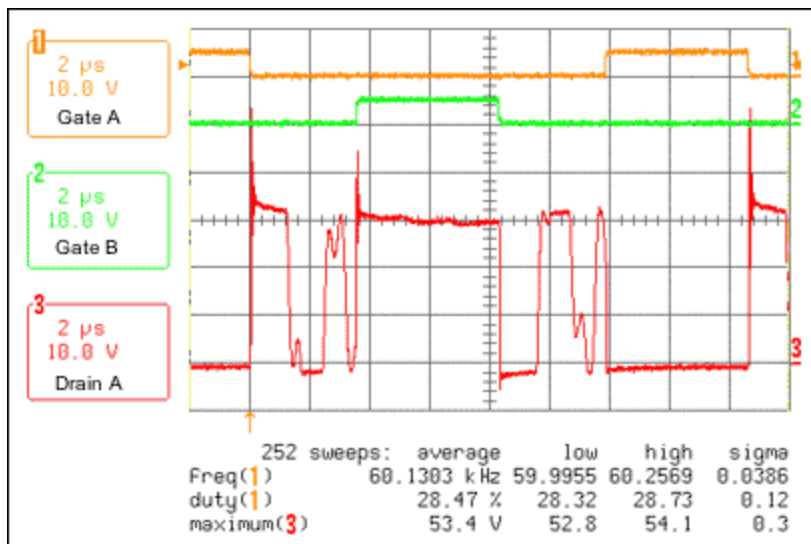
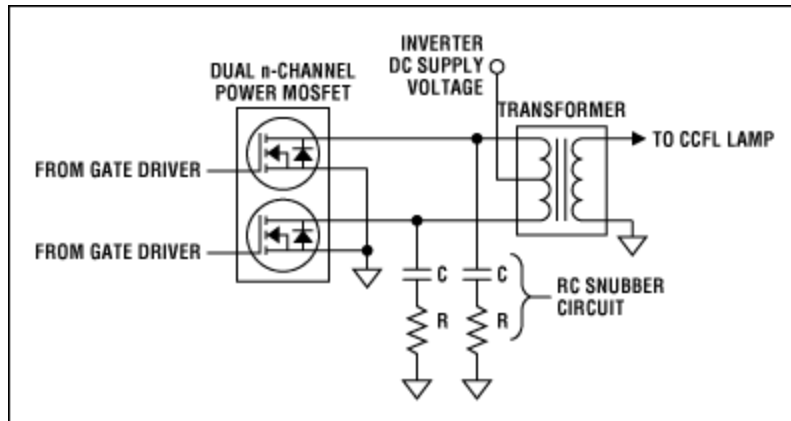

Figure 1. Drain voltage without snubber circuit.
Figure 2. Push-pull drain snubber circuit.
Figure 1 details the typical gate drive and drain waveforms for push-pull drive scheme with a 15V DC supply. In a push-pull drive arrangement when the complimentary MOSFET is turned on, the drain voltage normally increases to twice the DC supply voltage (or 30V in this example). However, as shown in Figure 1, voltage spikes as high as 54V appear. Voltage spikes appear on the drain of the n-channel power MOSFET when the gate of the MOSFET is turned off and also when the gate of the complimentary MOSFET is turned on.
Suppressing the drain-voltage spikes can be accomplished with a simple RC network added to each drain, as shown in **Figure 2**. The proper values for the resistor (R) and capacitor (C) network can be determined from the following suppression procedure. An example that shows how to reduce the voltage spikes shown in Figure 1 is detailed after the procedure.
In this section, using the five-step procedure outlined previously, the proper values for the resistor (R) and capacitor (C) snubber circuit to reduce the Figure 1 voltage spikes are determined.